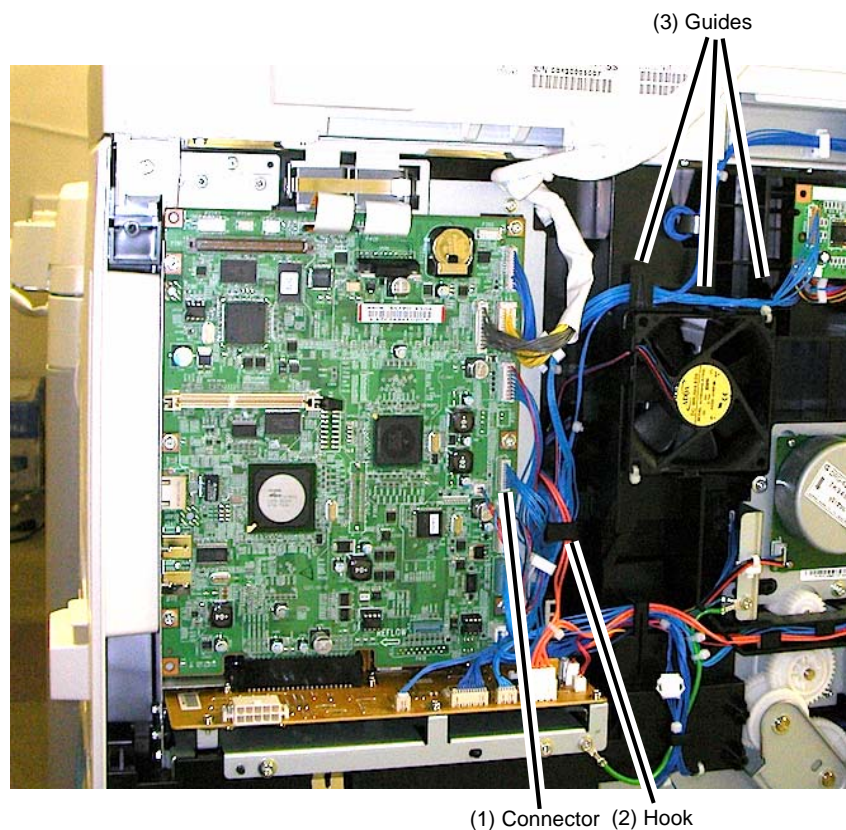

Figure 1 Disconnect Connector
2. Disconnect the Connector (Figure 1).